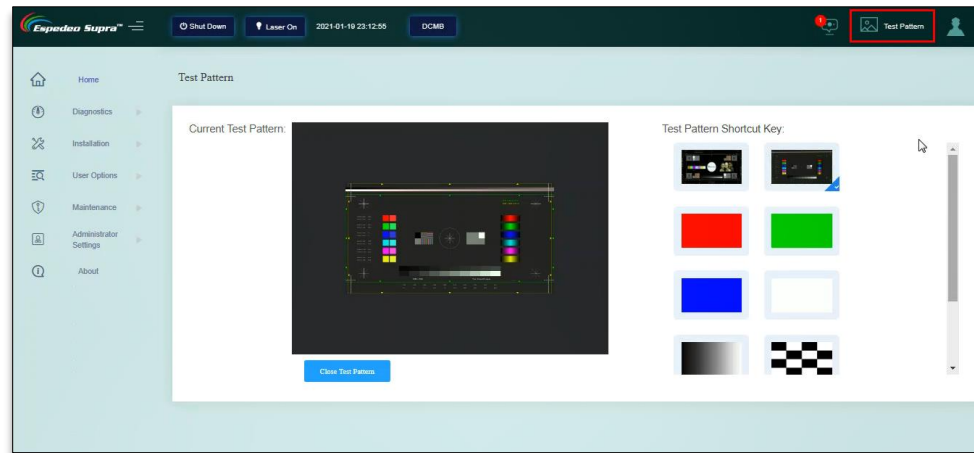

Figure 68: Project Test Pattern
- Check the left and right horizontal degree, while projecting the test pattern image on the screen. Check the horizontal degree of the projector again to make the image edge parallel to the screen edge (for domestic installation, the lower edge of the screen is usually used as the reference standard). Refer to **Figure 68**.